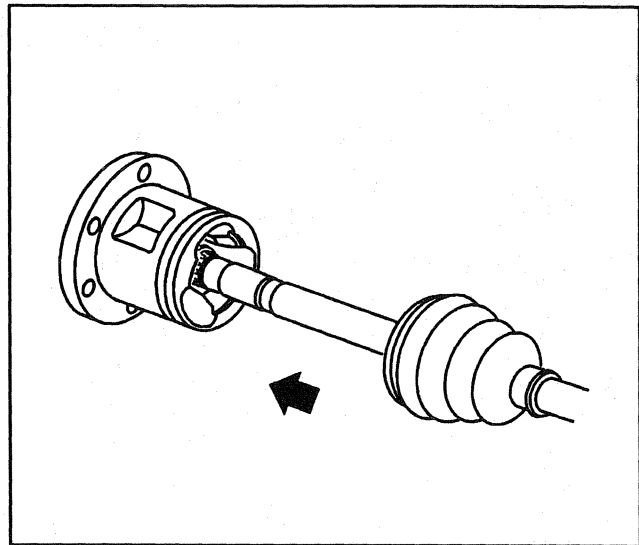

Figure 64—Installing Tripot to Housing
7. Slide the tripot housing over the tripot spider assembly on the shaft (Figure 64).